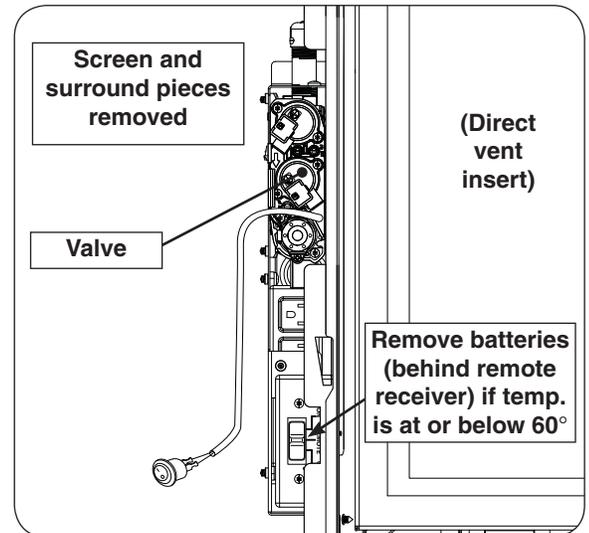
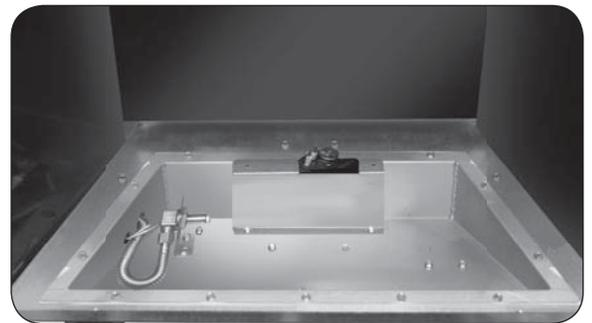

Fig. 1-1 Gain access to control box
Fig. 1-2 Gain access to interior of unit
5. At this stage, the insert should appear similar to that of Fig. 1-1 and Fig. 1-2.